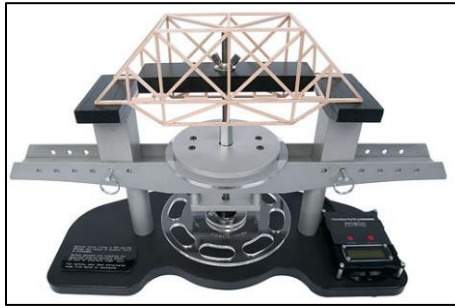

Figure 1. Pitsco Tester
- b) The instrument used for testing will be the Pitsco Structures Testing instrument as seen in Figure 1 below.
- i) The bridge is allowed to touch the tester support surfaces ONLY where shown by the "*" in Figure 11. Bridges are not allowed to touch any portion of the tester not denoted by "*" in Figure 1. **It is recommended, but not required, to utilize both the horizontal and vertical support surfaces (denoted by "**") for strength advantages.**